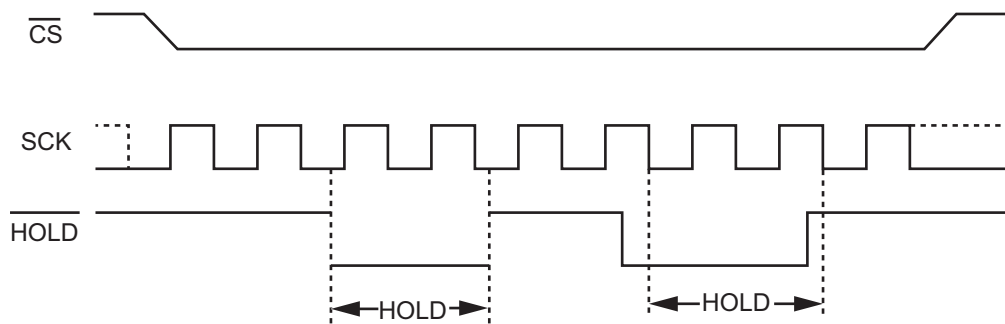

Figure 4. Hold Condition Activation
When  $QE=0$ ,  $HOLD=0$ , the  $\overline{HOLD}$  signal is used to pause any serial communications with the device without resetting the clocking sequence, but does not stop the in-progress operation of write status register, programming, or erasing. During the Hold condition, the Serial Data Output (SO) is high impedance, and Serial Data Input (SI) and SCK are don't care. To enter the Hold condition, the device must be selected, with  $\overline{CS}$  low. Normally, the device is kept selected for the whole duration of the Hold condition. Deselecting the device while it is in the Hold condition, has the effect of resetting the state of the device, and this mechanism can be used if it is required to reset any processes that had been in progress. The Hold condition starts when the  $\overline{HOLD}$  signal is driven low at the same time as SCK already being low (Figure 4). The Hold condition ends when the  $\overline{HOLD}$  signal is driven high at the same time as Serial Clock (SCK) is low. Figure 4 also shows what happens if the rising and falling edges are not timed to coincide with SCK being low.